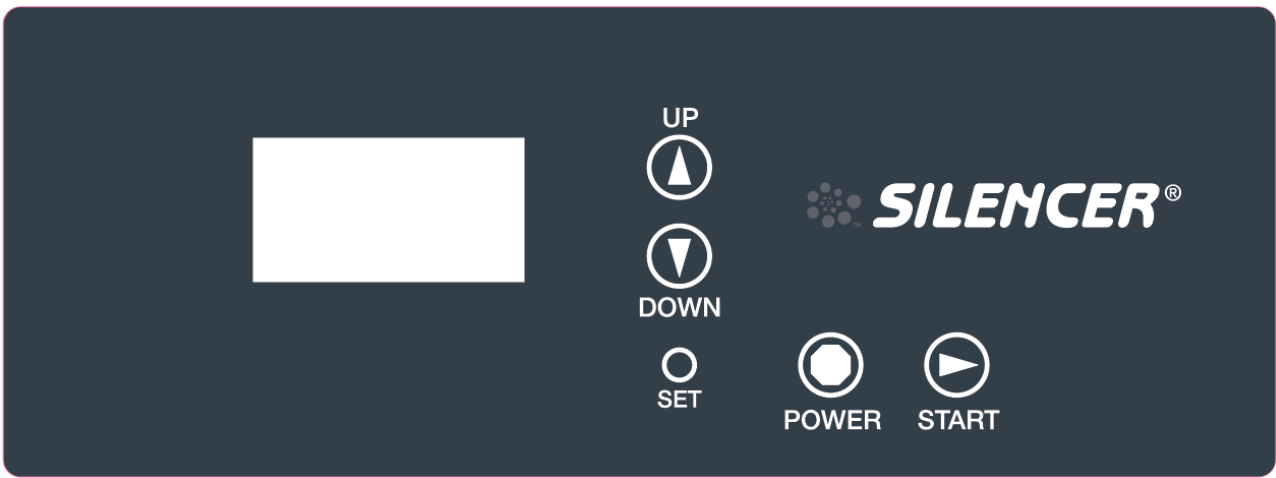

Figure 3.1
- Figure 3.1 Control Panel Layout3-1